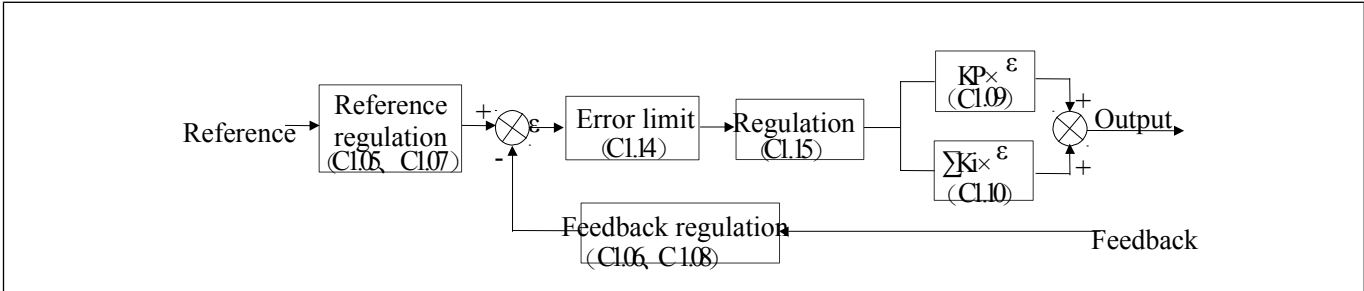
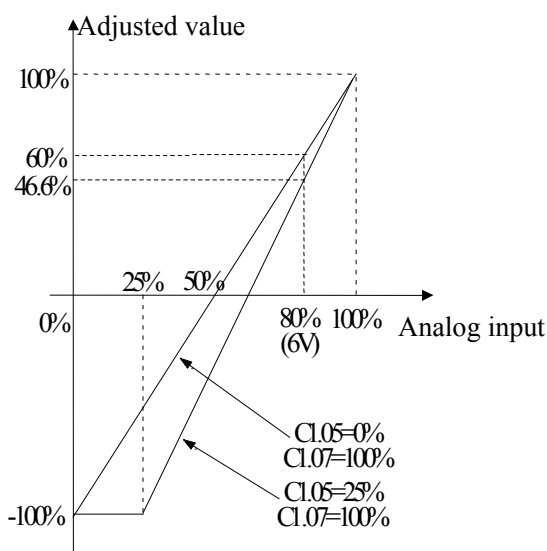

Fig.6-41 Principle diagram of process close-loop control
Fig.6-43 Regulation curve of reference
Operating principles of internal process close-loop of FV100 is shown in the Fig. 6-41
In Fig. 6-41, refer to C1.00~C1.14 for the definitions of close-loop reference, feedback, error limit and proportional and Integral parameters.
The regulation relationship between C1.05,C1.07(in Fig.6-41) and reference is shown in Fig.6-43.When the analog input 6V,if C1.05=0% and C1.07=100%, then adjusted value is 60 % .If C1.05 = 25 % and C1.07 = 100%, then the adjusted value is 46.6%.
1. Fig.6-43,0%~100% in X axis is corresponding to analog input -10V~10V,10V of analog input is corresponding to 100%,and -10V is corresponding to 0%,6V is corresponding to 80%.
The regulation relationship between C1.06, C1.08(in Fig.6-41) and feedback is similar to reference regulation.Its adjusted value can be observed in d0.25.